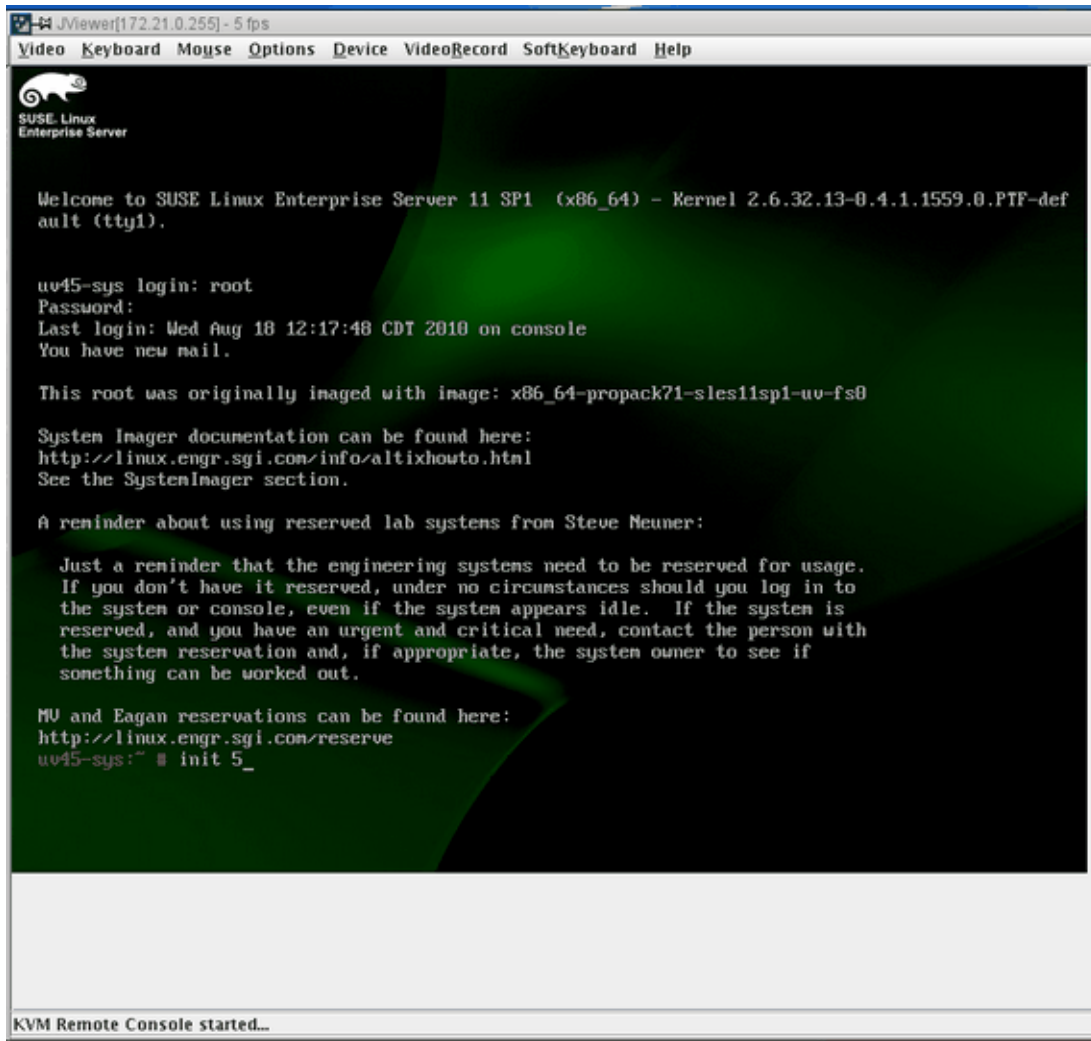

Figure 3-10 JViewer Operating System Login Screen
13. The operating system login screen appears. At the prompt enter **init5**, as shown in Figure 3-10 on page 45.